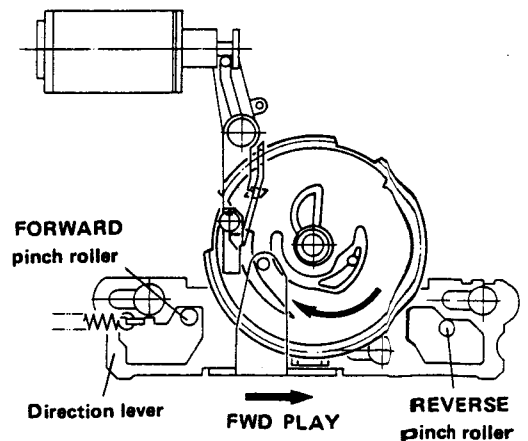

Figure 19
b) When the cam of Item a operates, it is guided towards the cam section for FWD operation and locked in the condition shown in Fig. 19.